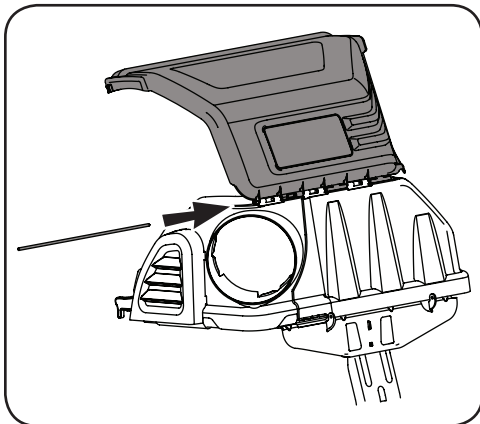

Figure 4-15
- From the front of the assembly, line up the tabs on the upper grass catcher cover with the tabs at the front of the upper chute support. Slide the hinge pin through the slots beginning at the right side upper chute support of the mounting tabs, as in Figure 4-15. Push the pin all the way in until it reaches the end-stop.